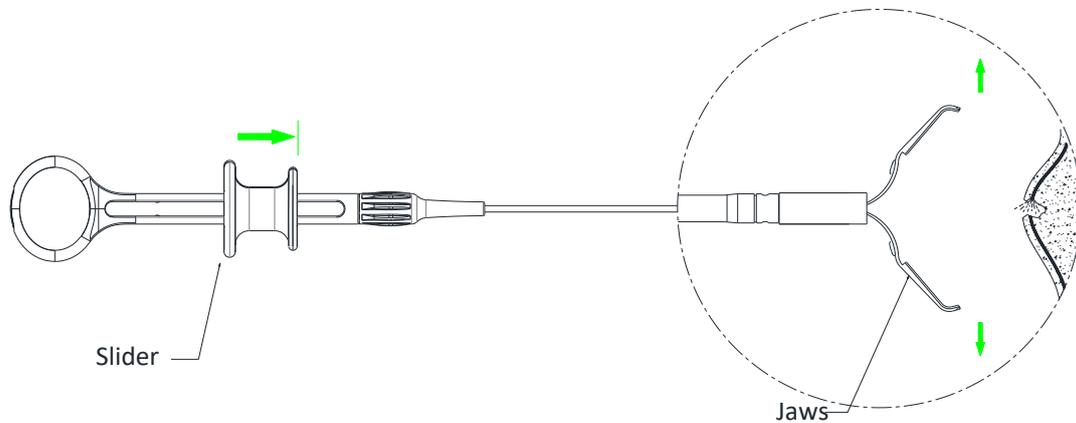

Figure 2: Open the Jaws
3. Once Single Use Rotatable and Repositionable Hemoclip can be observed exiting the tip of the endoscope under direct visualization, and the Clip is at the desired location, gentle move the Slider distally (away from the Thumb Ring) to open the Jaws, as shown in Figure 2.